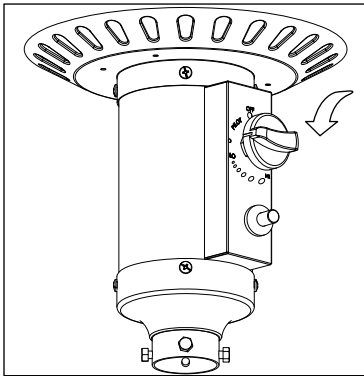

Figure 1
2. Press and turn the control knob to PILOT position (anti-clockwise 90°). (Figure 1)